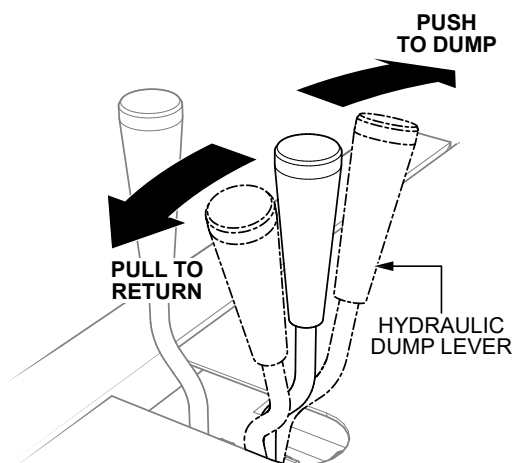

Figure 20. Hydraulic Dump Lever
1. Push the hydraulic dump lever (Figure 20) forward to place the drum in the dump position (Figure 21).